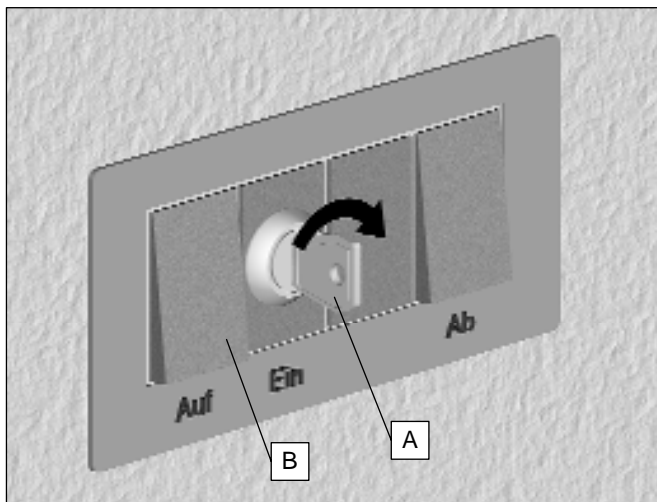

Fig. 6.17: Stationary remote control
- Insert the key (A) into the stationary remote control (fig. 6.17) or into the portable remote control (fig. 6.18).
- Turn the key (A) to the ON position.
- Insert the key into the stationary remote control (fig. 6.17) or into the portable remote control (fig. 6.18).